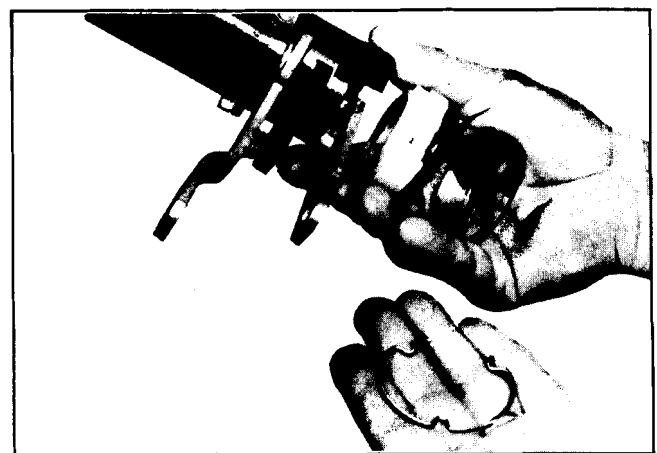

Fig. 9-48 Removing Bearing Adapter, Bearing and FIRST/REVERSE Lever - Manual Transmission
5. Remove bearing adapter, bearing and FIRST-/REVERSE lever (Fig. 9-48).